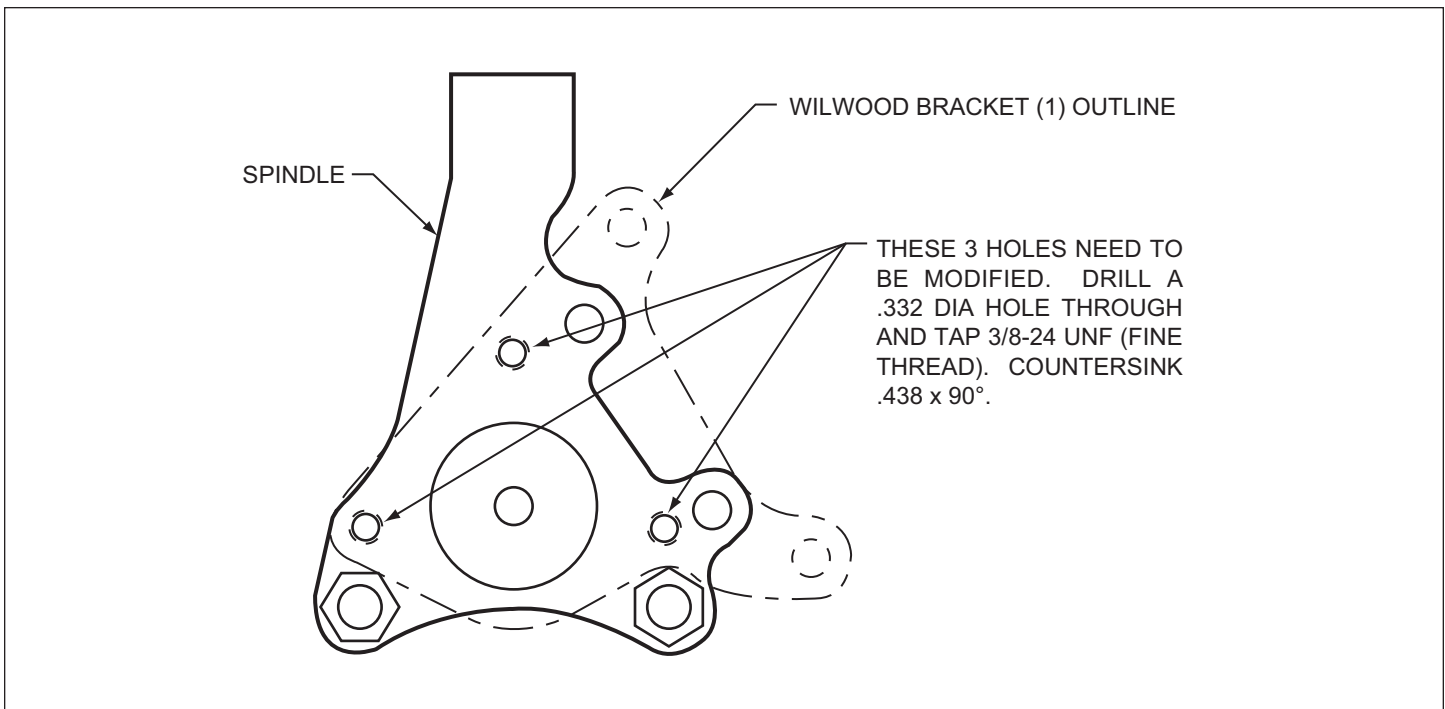

Figure 1. Steering Arm / Spindle Modifications
These modifications should be performed by a qualified machinist. Refer to Figure 1 on the following page as necessary (numbers in parenthesis refer to the parts list on page three). Only one view of the steering arm/spindle is shown, but the modifications need to be performed on both steering arm/spindles.
- Mount the adapter/rotor assembly (7/8) to the hub (4) using bolts (10) (finger tight), as shown in Figure 1. Using an alternating sequence, remove bolts one at a time, apply red *Loctite*® 271 to the threads, and torque to 55 ft-lb.
- Pack the small outer bearing cone (11) with high temperature disc brake bearing grease. Lightly coat the spindle bearing surfaces with bearing grease. Slide the hub/rotor assembly (4 and 8) with outer bearing cone (11) onto the spindle. Secure using spindle washer (12), existing adjusting nut and nut locking device.